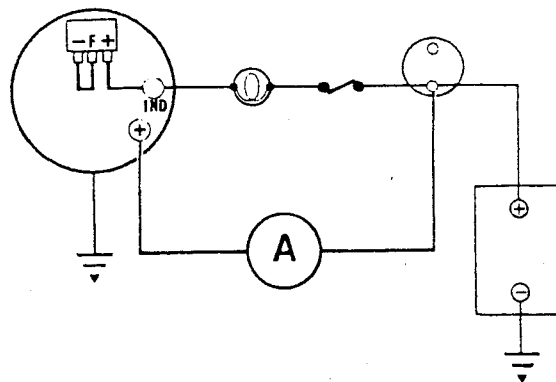

Fig. 79 Checking alternator maximum output
- Connect an ammeter between the starter solenoid terminal and the alternator main output cable, Fig. 79.